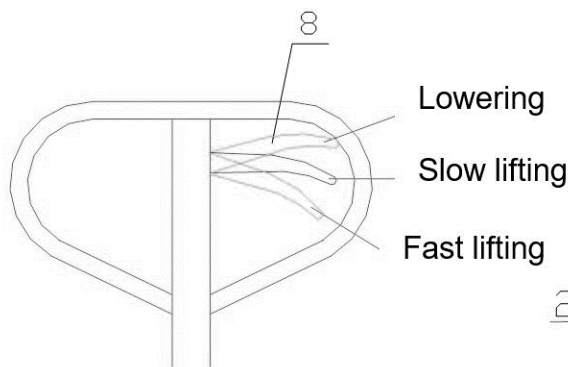
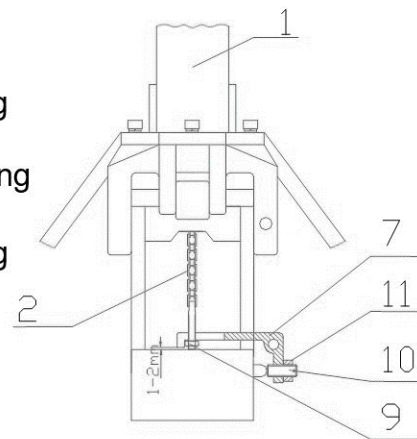

Fig. 3
Fig. 4
3.4 See Fig. 3. Position the trigger (8) at fast lifting and adjust the nut at the end of the roller chain (2) to raise lever pad (7) at a gap of 1-2 mm from the pedestal. This procedure is usually unnecessary for a new truck. See Fig. 4. *Note! Be careful not to remove the nylon locking threads from the nut, otherwise there is a risk that vibration will gradually unscrew the nut and cause it/chain to disengage from the lever pad, leaving the trigger unusable.*
3.5 Try rocking the handle and operate the different gears of the trigger (8) to see whether the truck works well at fast lifting, slow lifting and lowering. See Fig. 3.
3.6 The screw (10) in Fig. 4 is used for adjusting the truck operation. In case the truck body lowers shortly after rising or is unable to lift fast, turn the screw (10) a little counterclockwise before trying to operate the truck again. In case the truck body is unable to lower, turn the screw (10) a little clockwise and then try to operate the truck again until it restores normal lowering. Hexnut (11) at the screw (10) functions as a lock, so it should be unfastened before adjusting and locked/tightened after adjusting.